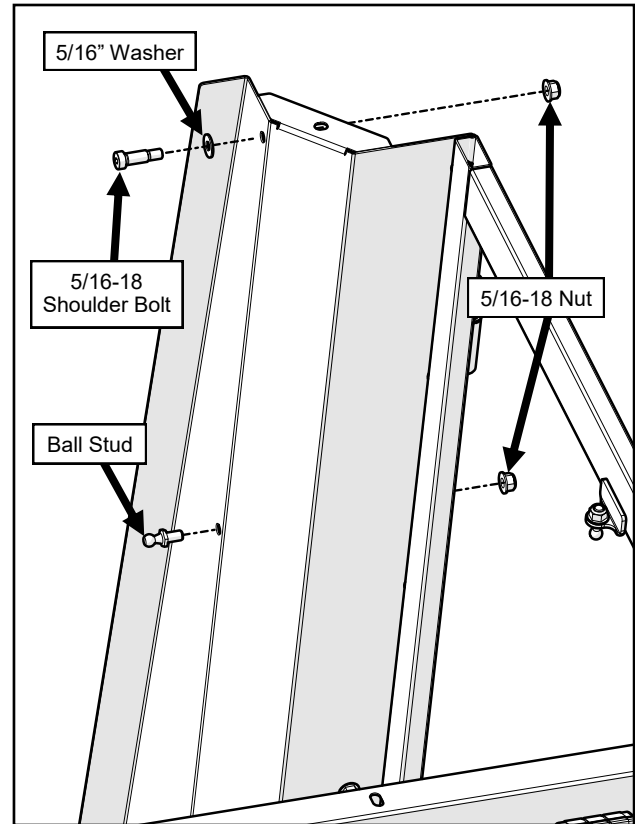

Fig. 2.1 (Install Striker Pin and Ball Stud)
- 2.1** Remove previously installed dome plugs in the left rear leg assembly and install a latch striker pin, washer, and nut as shown in Figure 2.1.
- 2.2** Remove previously installed second-to-top screw and nut in the left rear leg assembly and install a ball stud as shown in Figure 2.1.